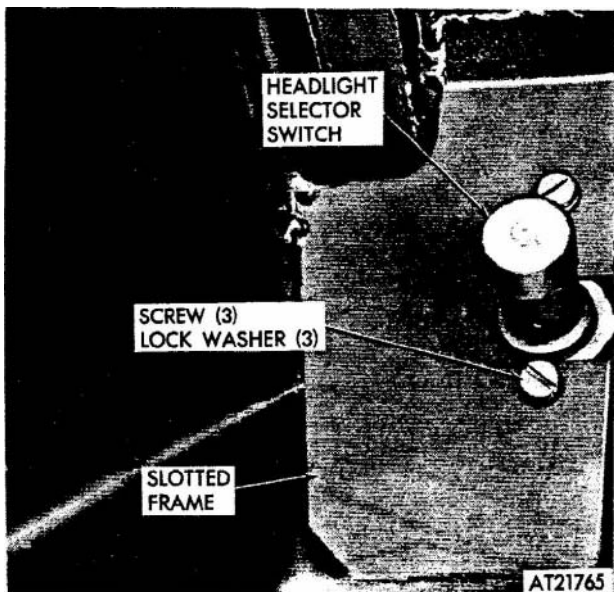

Figure 2-113. Headlight selector switch.
(1) Remove selector switch by removing three screws and lock washers. Slide switch from slotted frame (fig 2-113).
(2) Disconnect electrical connectors from switch.